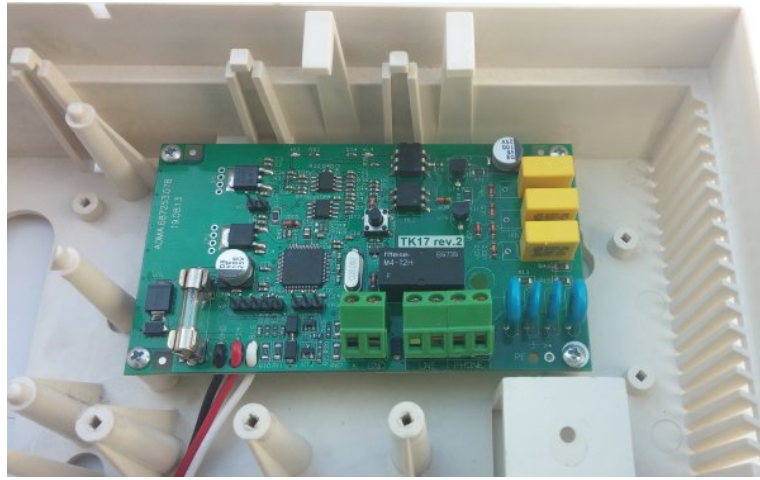

Figure 34. “TK-17” communicator installation
1. Place the communicator into the housing (Figure 34) and connect with the Control Panel board according to the diagram in “TK-17 phone communicator. Installation Guide” available at www.ortus.io;